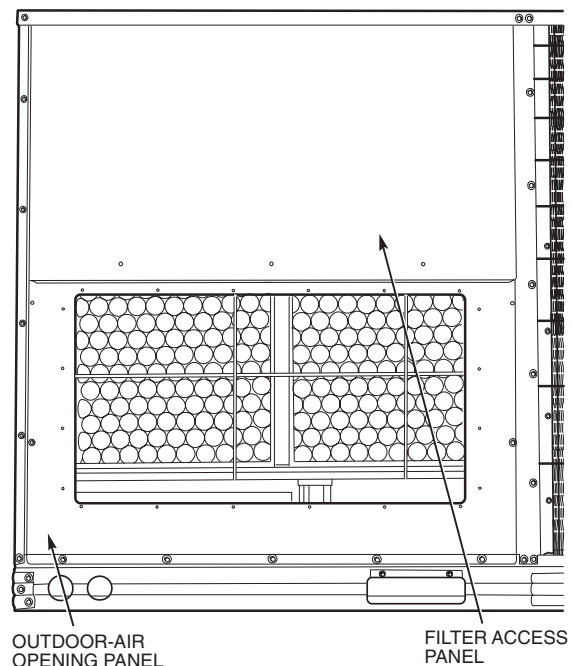

Fig. 17 — Access Panel Locations
- Remove filter access panel by raising panel and swinging panel outward. Panel is now disengaged from track and can be removed. No tools are required to remove filter access panel. Remove outdoor-air opening panel. Save panels and screws. See Fig. 17. Remove optional economizer and outdoor-air damper hood package from filter section.